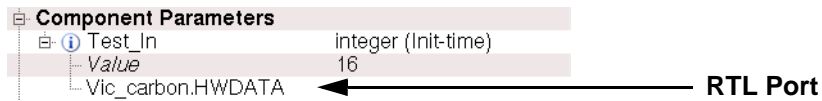

Figure 4-31 SoC Designer Component Parameter Mapped to RTL Port
2. Select the signal from the list and click **OK**, and the RTL port is moved from the *Component Ports* section to the *Component Parameters* section (Figure 4-31).